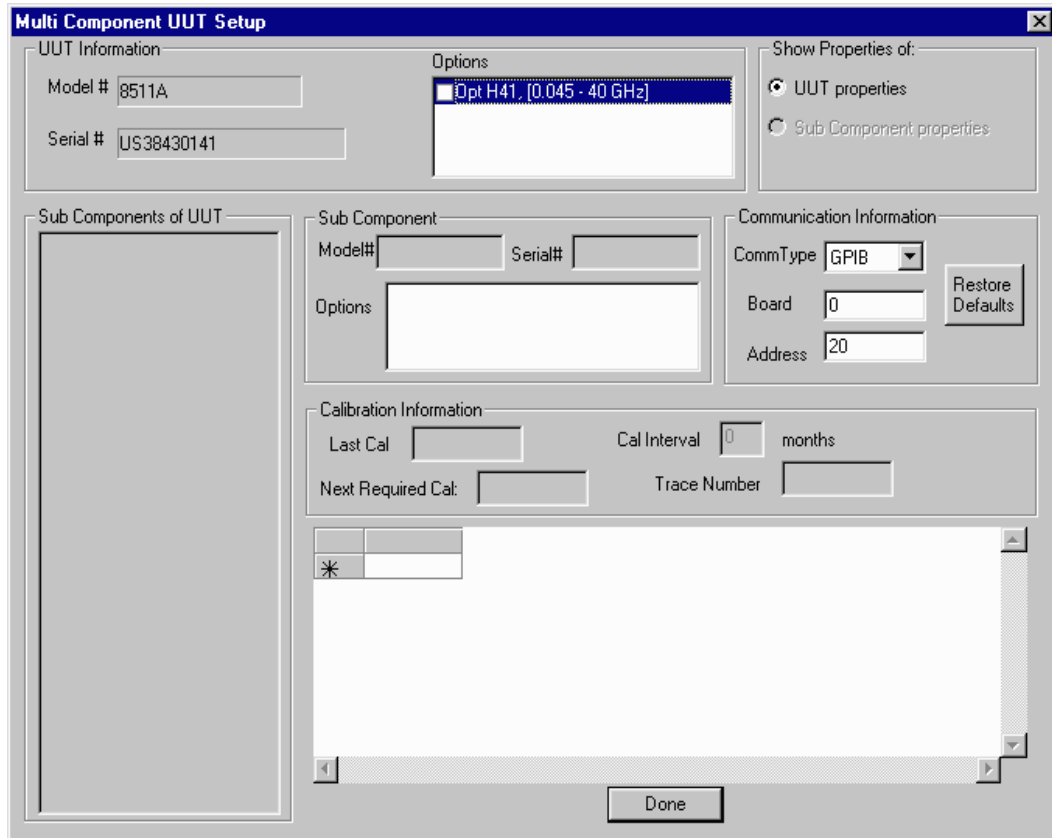
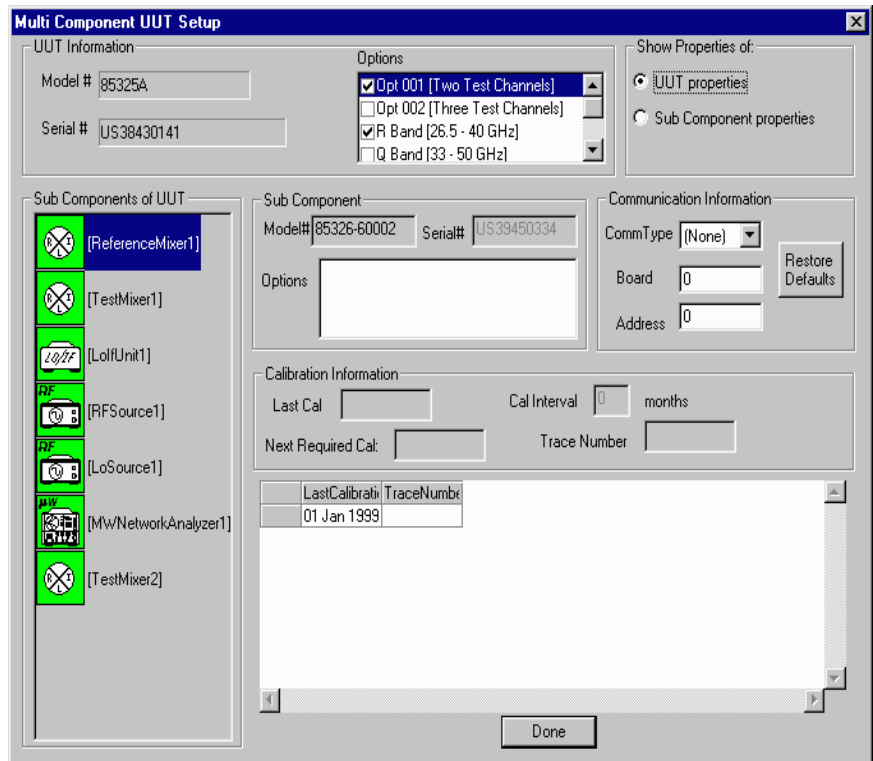

Figure 21 *Configuring a Single Component UUT*
Figure 22 *Configuring a Multi-Component UUT*
5. Select the appropriate options for the UUT in the **Options** field by clicking the **UUT properties** radio button. The option check boxes do not clear automatically. Be sure to manually remove the check box for any options that do not apply to your UUT. See Figure 21 for configuring a single component UUT and Figure 22 on page -31 for configuring a multi-component UUT.